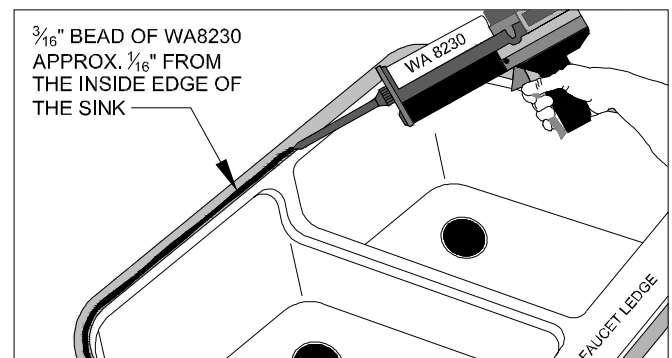

Figure 7B
- Apply the WA8230 - LS Sink Seam Adhesive to the HD sink flange. (FIG. 7B)